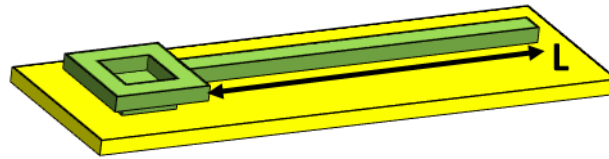
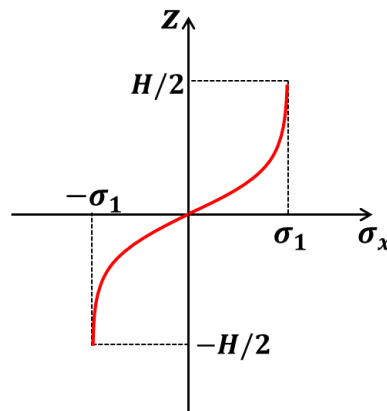

Fig. PS4.1-3
Fig. PS4.1-4 Stress gradient in polysilicon cantilever
- b) Suppose you also fabricated a separate clamped-free beam (shown in Fig. PS4.1-3) having the same geometry as one of the support beams (i.e., $L=40\ \mu\text{m}$, $W=2\ \mu\text{m}$). Assuming that the deposited polysilicon film has a vertical stress gradient as shown in Fig PS4.1-4, where σ_x is proportional to $z^{1/3}$ with $\sigma_1=10^7\ \text{Pa}$ at location $z=H/2$, how high above the substrate is the tip of this cantilever be after release?